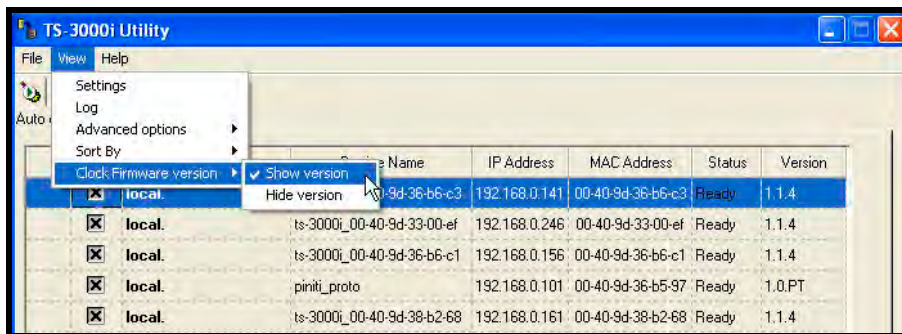

Figure 5-21: Show Firmware Version
- **Clock Firmware version** – Use this function (see *Figure 5-21*) to show the clock firmware version in the list of discovered TS-3000i clocks. If left on Hide, the list will be generated without listing the version for the discovered clocks.